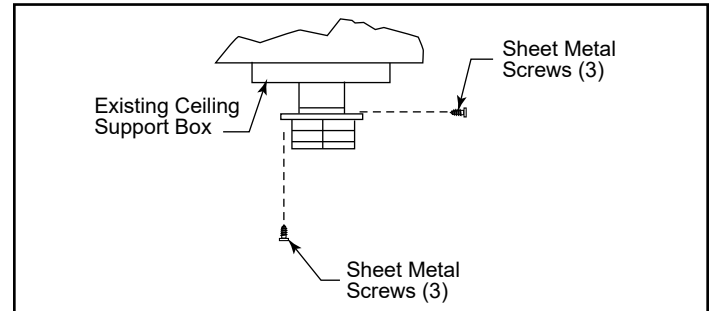

Figure 3.48
5. Pull the flex pipe down through the ceiling support box, until it protrudes approximately 3" (76 mm). Connect the flex pipe to the retro connector by slipping it into the 4-3/4" (121 mm) diameter sleeve on the top side of the connector. Use three (3) sheet metal screws to assemble these two parts.
6. Push the flex pipe back up into the ceiling support box, center the retro connector and attach it to the support box or decorative sleeve for double wall solid packed pipe, with the sheet metal screws furnished. The holes in the retro connector are pre-punched, Figure 3.48.